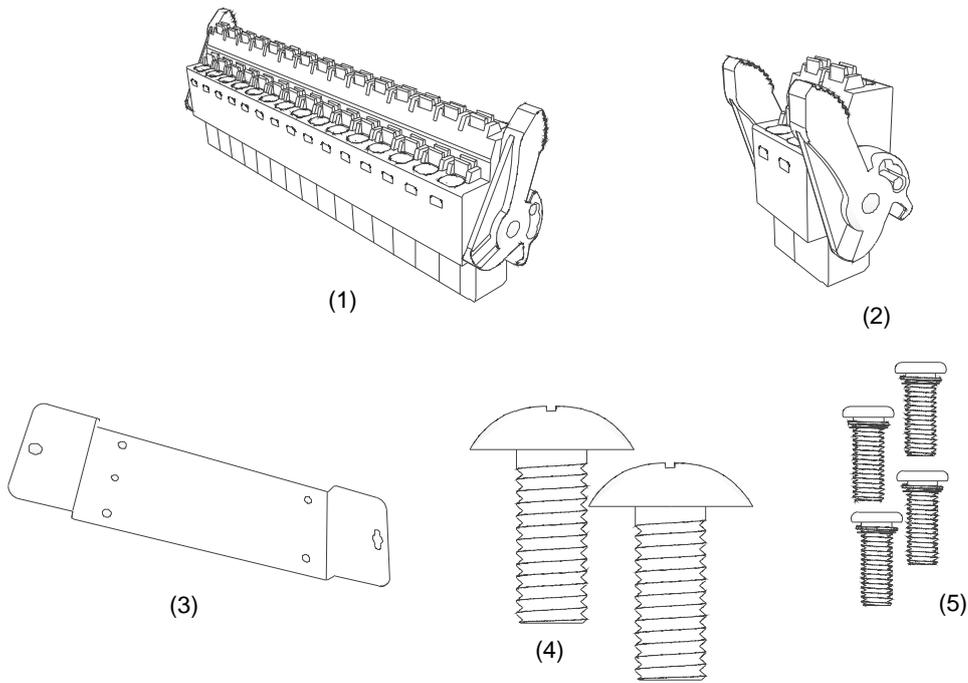

Figure 1.1.1 Accessory Diagrams
3. Accessories (As shown in Figure 1.1.1)